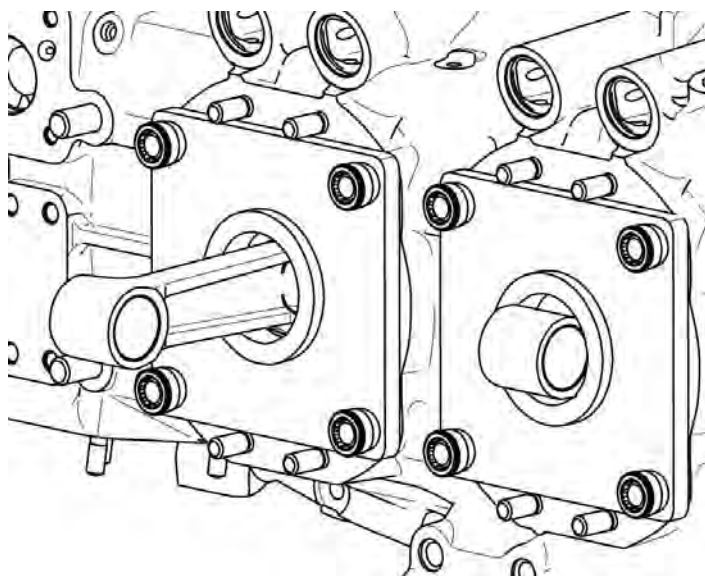

Figure 75
- (12) Install the torque hold down plate (ST-222, Figure 75) at the cylinder pads over the thru-studs.